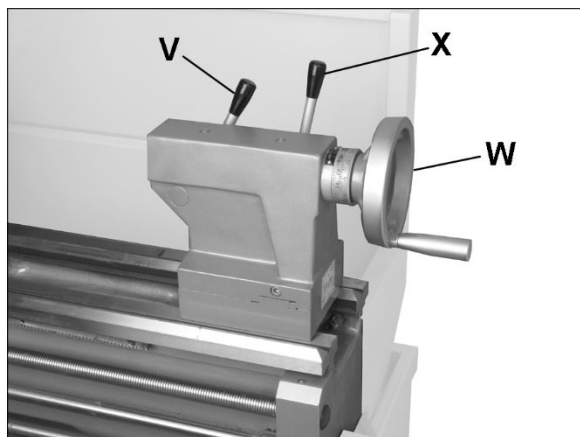

Figure 9-3
17. **Tailstock Quill Lock** (V, Figure 9-3): Push clockwise to lock sleeve; counterclockwise to unlock.
18. **Tailstock Quill Traverse Handwheel** (W, Figure 9-3): Rotate clockwise to advance quill; counterclockwise to retract. Fully retract quill to eject a center or drill chuck.
19. **Tailstock Clamping Lever** (X, Figure 9-3): Push up to lock; down to unlock.